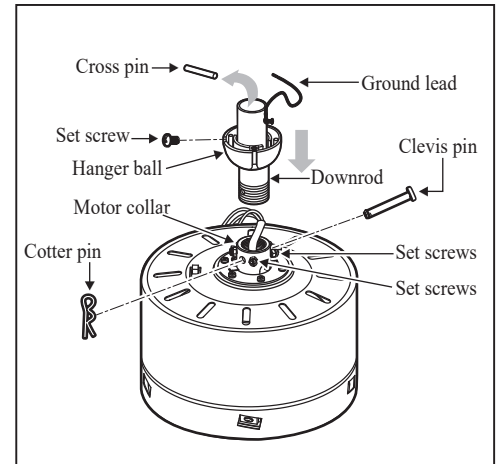

Figure 6
3. Remove the cotter pin and clevis pin, and loosen the two collar set screws from the fan motor assembly collar. (Figure 6)
4. Take out the setscrew located in the hanger ball, lower the hanger ball and remove the cross pin. Remove the hanger ball from the hanger ball/downrod assembly. (Figure 6)
5. Remove the ground lead from the downrod assembly. (Figure 6)